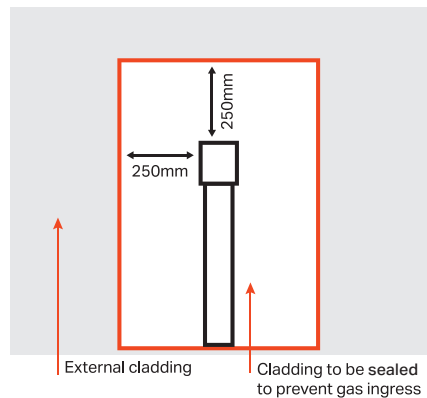

Figure 2: External gas pipework
- A minimum of 250mm around any external gas pipework (as shown in Figure 2).